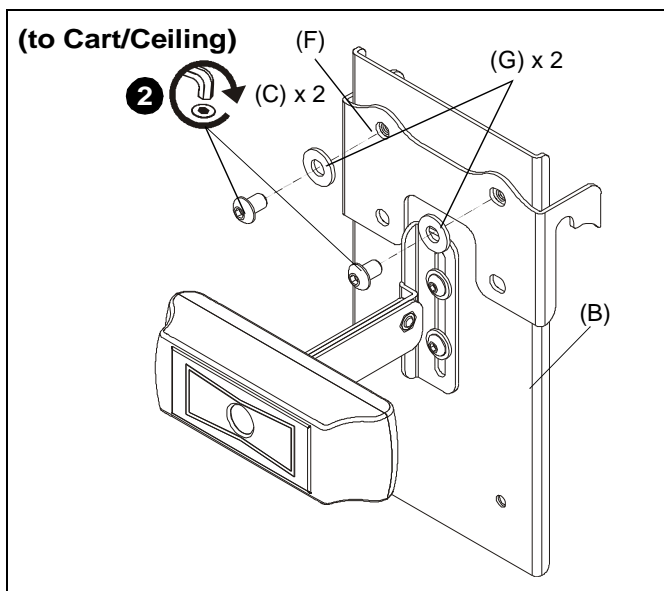

Figure 2
2. Use two 1/4-20 x 3/8" button head cap screws (C) and two 1/4" washers (G) to attach one center holder (F) to center plate (B). (See Figure 2)